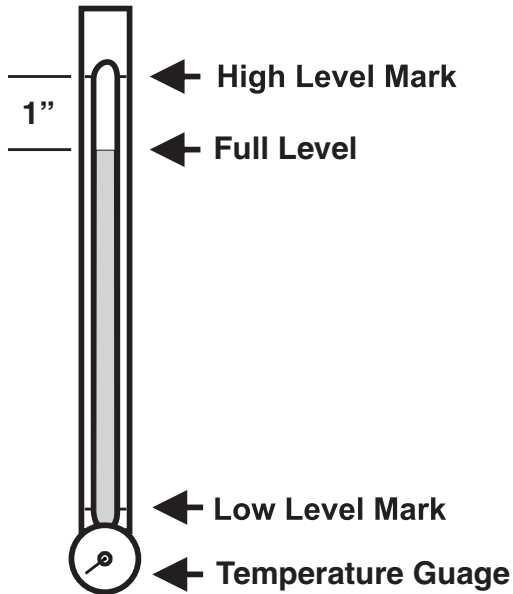

Figure 34. Oil level sight gauge
Reservoir Oil Level Oil Level Float switch is installed to detect the oil level. Motor starter shuts off when oil level is 1" below the low level mark. The reservoir is full when the Oil level is 1" below the High Level Mark with the plunger cylinder extended and the restriction cylinders retracted (see Figure 34).
5. Fill the reservoir until oil in the sight gauge is 1" below the High Level Mark (see Figure 34).